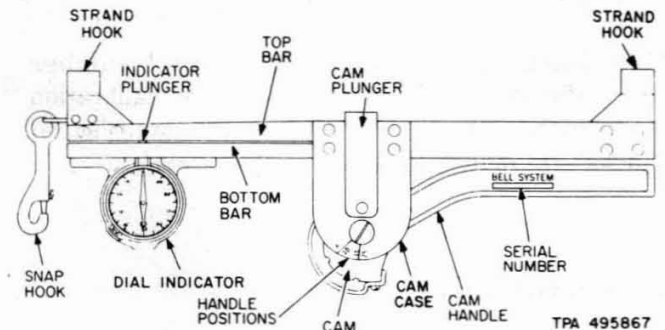

Fig. 1—B Strand Dynamometer
2.02 The B Strand Dynamometer (Fig. 1) is the current model in use. It has a two-position cam handle, one position for 6M, 6.6M, and 10M strand, and the other for 16M strand.